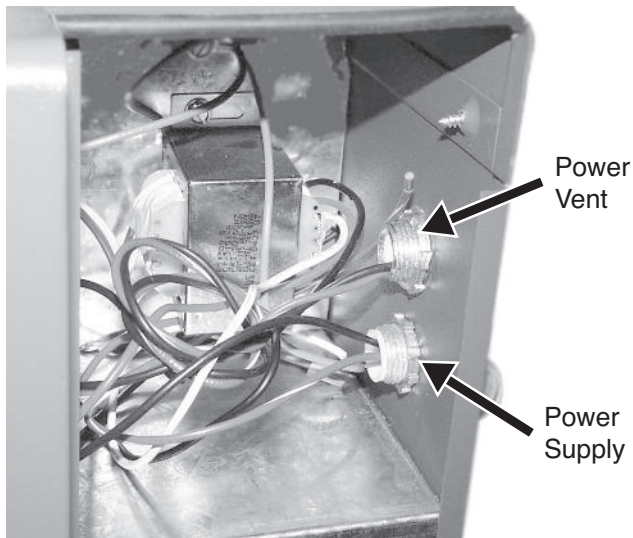

Fig. 13
13. Install the right side outdoor conduit through the top 7/8" hole located on the right side of the heater. See Fig. 13. Note: You must first remove the 7/8" plug on the heater to install the hard conduit.